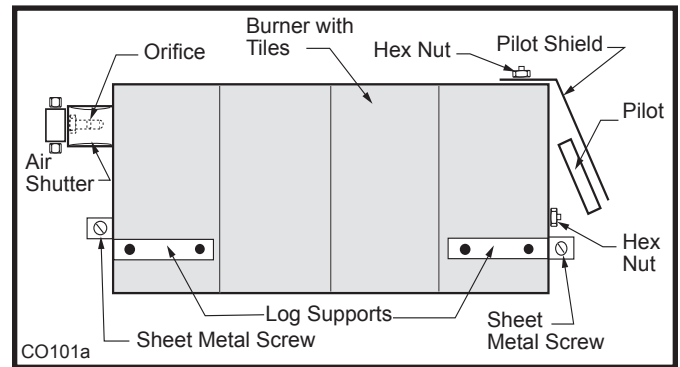

Fig. 2 Manifold assembly and orifice location.
2. Unscrew two hex nuts connecting pilot shield to burner with tiles. Move pilot shield to right. (Fig. 2)